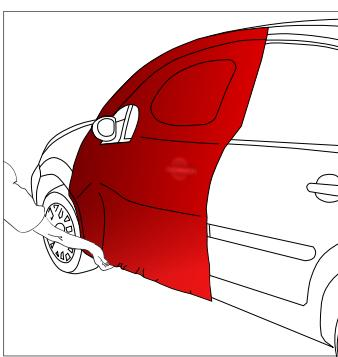

Figure 21
- › Once the door handles are done, stretch the film down to the bottom of the vehicle body. (FIG. 21)